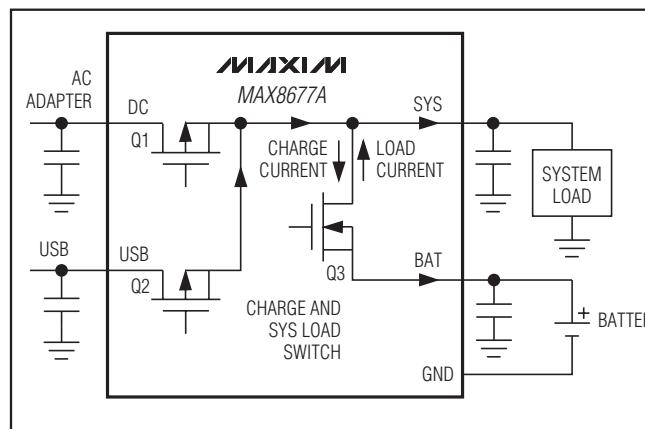

Figure 4. Smart Power Selector Block Diagram
The MAX8677A Smart Power Selector seamlessly distributes power between the external inputs, the battery, and the system load (Figure 4). The basic functions performed are:
An internal 40m $\Omega$  MOSFET connects SYS to BAT (Q3, Figure 4) when no voltage source is available at DC or USB. When an external source is detected at DC or USB, this switch is opened and SYS is powered from the valid input source through the input limiter.
The input voltage limiter is essentially an LDO regulator designed to run in dropout. While in dropout, the regulator dissipates a small  $I^2R$  loss through the  $0.2\Omega$  MOSFET (Q1, Figure 4) between DC and SYS. With an AC adapter or USB source connected, the input limiter distributes power from the external power source to the system load and battery charger. In addition to the input limiter's primary function of passing power to the system and charger loads at SYS, it performs several additional functions to optimize use of available power:
- **Input Voltage Limiting.** If an input voltage is above the overvoltage threshold (6.9V typ), the MAX8677A enters overvoltage lockout (OVLO). OVLO protects the MAX8677A and downstream circuitry from high-voltage stress up to 14V at DC and 8V at USB. In OVLO, VL remains on, the input switch that sees overvoltage (Q1, Q3, Figure 4) opens, and the appropriate power-monitor output (DOK, UOK) is high impedance, and  $\overline{CHG}$  is high impedance.
If both DC and USB see overvoltage, both input switches (Q1 and Q2, Figure 4) open and the charger turns off. The BAT-SYS switch (Q3, Figure 4) closes, allowing the battery to power SYS.
An input is also invalid if it is less than BAT, or less than the DC undervoltage threshold of 3.5V (falling). With an invalid input voltage, SYS connects to BAT through a  $40m\Omega$  switch (Q3, Figure 4).
The total current through the switch (Q1 or Q2 in Figure 4) is the sum of the load current at SYS and the battery charging current. The limiter clamps at 5.3V, so input voltages greater than 5.3V can increase power dissipation in the limiter. The limiter power loss is  $(V_{\text{DC}} - 5.3) \times I$ , but not less than  $I^2 \times 0.2\Omega$ . Also note that the MAX8677A turns off any input that exceeds 6.9V (nominal).